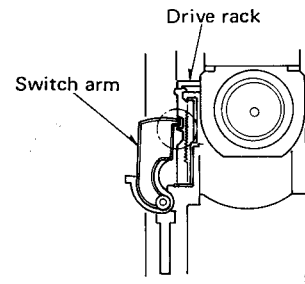

Fig. 11
6. Before fitting the disc holder, make sure that the switch arm end is on the groove side of drive rack top. (See Fig. 11.)
3. When the drive rack is fitted, the switch arm end should be on the groove side of drive rack top. (See Fig. 11.)